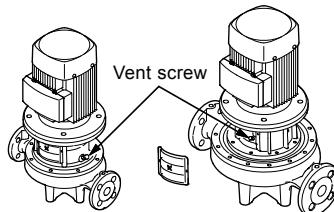

Fig. 15 Position of vent screw
- Close the isolating valve on the outlet side and loosen the vent screw in the motor stool. See fig. 15.
- Loosen the vent screw. See fig. 15.
- Vent the pump during starting by loosening the vent screw in the motor stool until a steady stream of liquid runs out of the vent hole. See fig. 15.